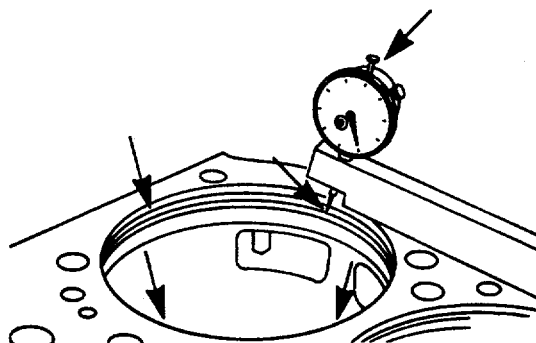
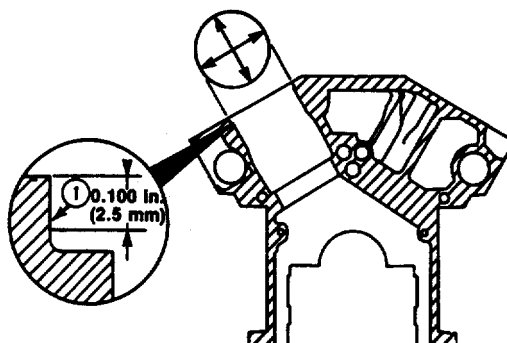

FIGURE 4-82. Counterbore Ledge Angle Measurement.
FIGURE 4-83. Upper Counterbore Measurement.
- (2) Use gauge block to measure the angle of the counterbore ledge at 4 places on the counterbore circumference (FIG. 4-82). Ensure measurement of ledge depth is as near to counterbore radius as possible and as near to counterbore edge as possible. Verify that the measurement near the counterbore edge is the same or no more than 0.0014 inch (0.036 mm) shorter than the measurement near the counterbore radius.
- (3) Use crack detection kit to check the counterbore ledge for cracks. Circumferential cracks are acceptable if they do not extend more than $\frac{1}{2}$ of the distance across the ledge. Cracks that extend into a water hole or capscrew hole are not acceptable.
- (4) Measure inside diameter of upper counterbore (1, FIG. 4-83). The point of measurement must be within 0.100 inch (2.5 mm) from the top of the block. Verify measurement is within specifications in Table 4-8 . Verify upper counterbore is round within 0.001 inch (0.025 mm).